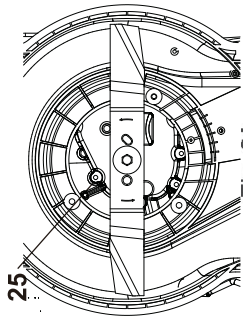

Fig. 21
- Place a suitable container under the oil drain screw (25) to collect drained oil. Ensure the container has an efficient volume.
- Loosen and remove the oil drain screw (25) to empty the oil into the oil collecting container (Fig. 21).